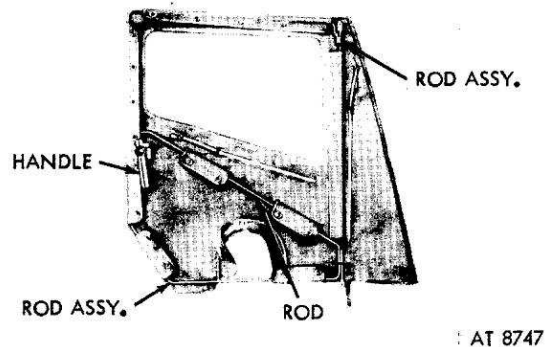

Figure 4-9. Left door assembled.
c. Lay the door canvas on a flat surface and assemble the door as illustrated by figure 4-9. Secure all button fasteners.